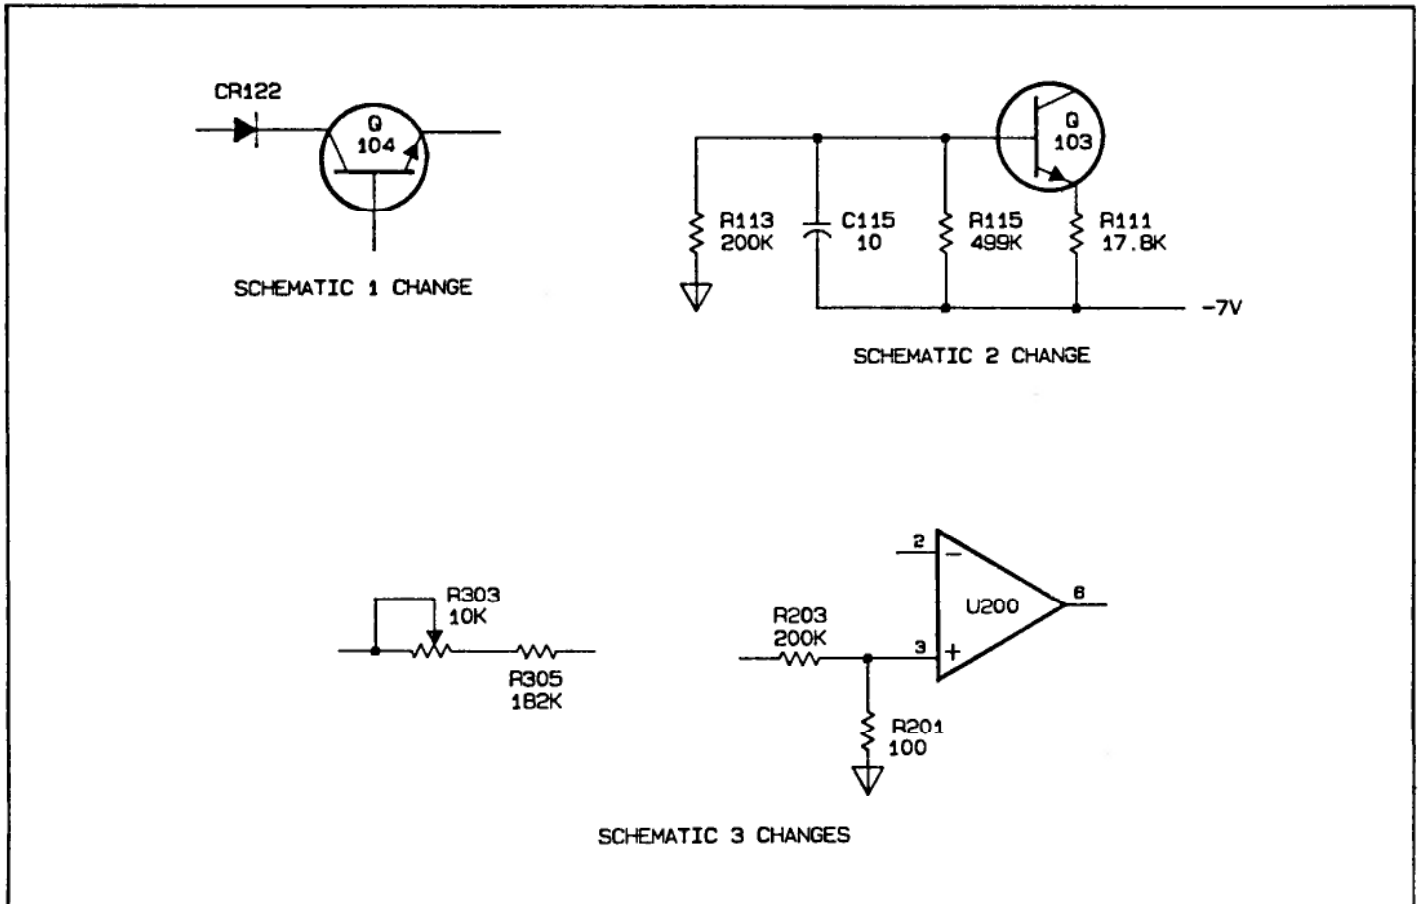

Figure 7-1. Schematics 1, 2, and 3 Changes (Change #2)
7-10. Schematic 1 Changes. Delete R159 from the collector of Q104 and connect the collector to CR122, as shown in Figure 7-1.
- c. Change the current source (Q103) circuitry in the input amplifier as shown in Figure 7-1.
a. Delete RT300 and R307, connected to potentiometer R303, and connect R303 to R305 (see Figure 7-1). Also change the value of R305 to 182k.
b. Delete R207 from the + input of U200, as shown in Figure 7-1.